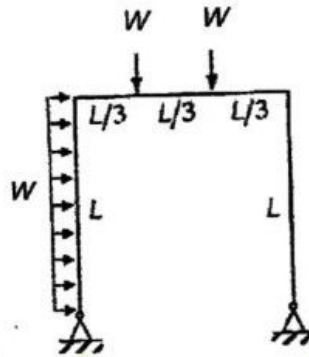

Figure. 1
- (b) Determine the value of W at collapse for the portal frame shown in Figure. 1 below. Assume that the plastic moment of resistance (M_p) is same for all the members.